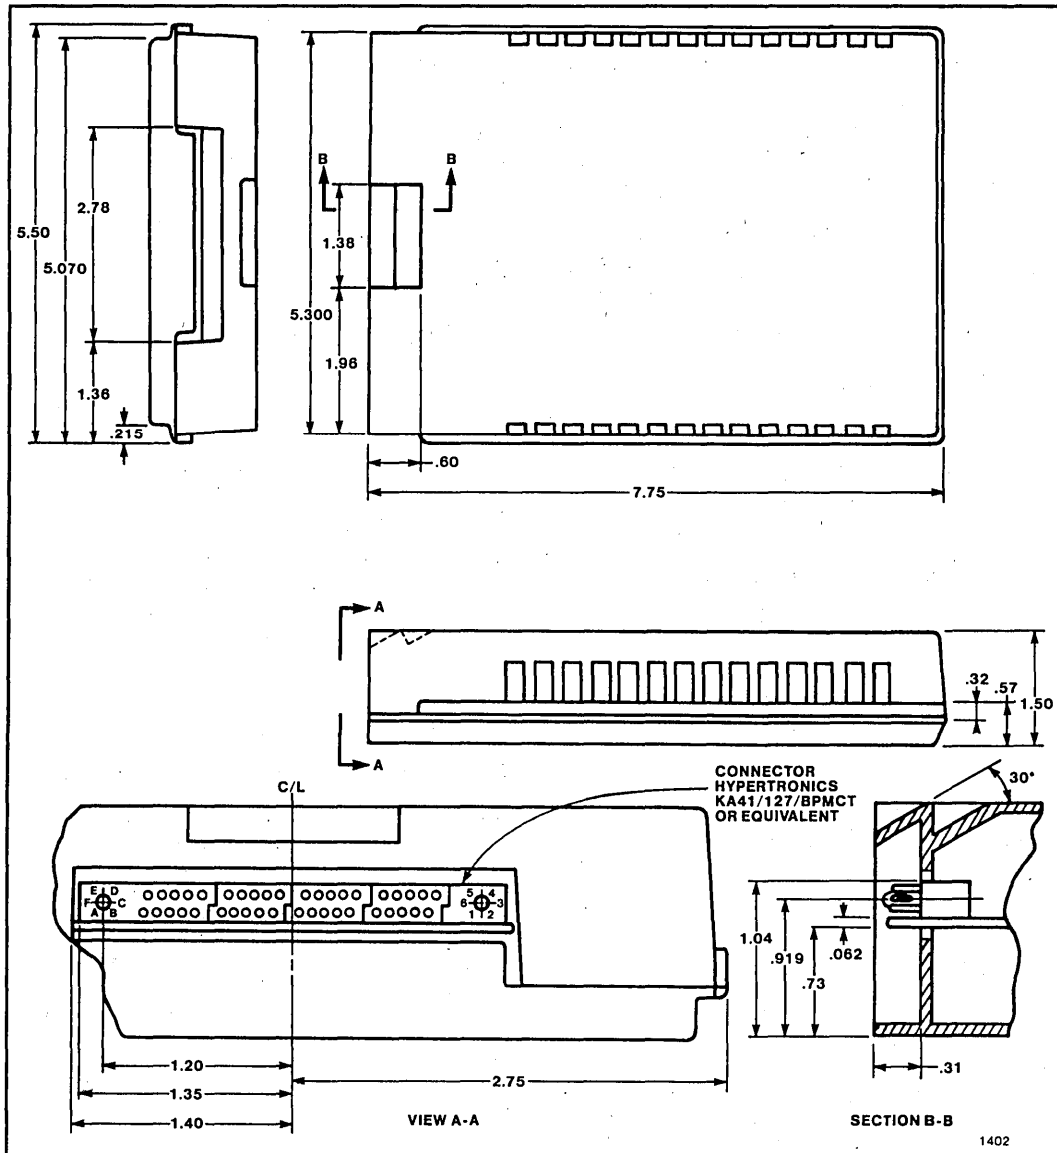

Figure 5. Plug-In Module Mechanical Specifications
The mechanical specifications define the connector requirements and the outline and mounting dimensions for plug-in modules using the iPDX bus. Figure 5 is an outline drawing of a plug-in module for the iPDX bus. All plug-in modules for the iPDX bus must comply with the dimensions specified in Figure 5.
- The first four inches (measured from the connector end) of the plug-in module must meet the mechanical and outline specifications shown in Figure 5.
Plug-in modules for the iPDX bus must have an enclosure that meets the mechanical specifications shown in Figure 5 for the first four inches (measured from the connector end) of the module. Intel has developed a prototyping kit (product code iPDS-PROTO) to simplify the mechanical and hardware portions of the design. This prototyping kit consists of the plug-in module enclosure, a prototyping board, iPDX bus connector, a hardware kit, isolation capacitors, and wire-wrap pins. The iPDS-PROTO kit can accept up to 30 ICs and associated discrete components in the available board space. If a plug-in module designed around the iPDX bus goes to a production phase, use of the module tooling can be licensed through Intel.